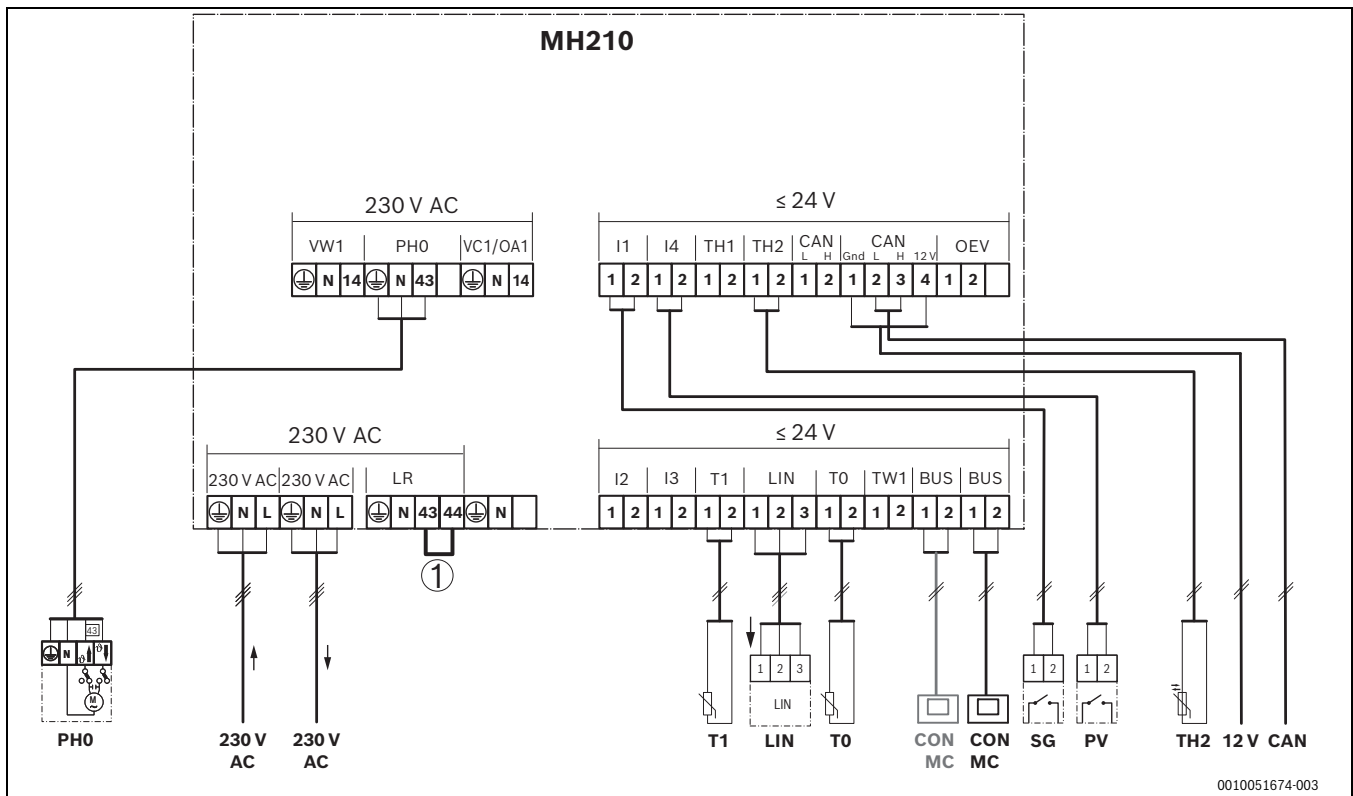

Fig. 35 Overview of the terminal assignment
- ▶ Ensure that the cables are connected to the connections of the hybrid manager marked accordingly (→ Fig. 35).
Legend for figure 35 and tables 1 and 2: